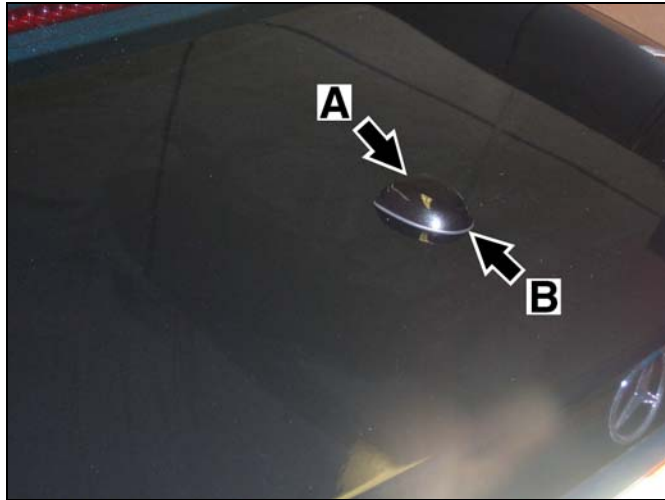

Figure 4
6. Align the SDARS antenna straight with the vertical end (A, Figure 4) facing the vehicle front and the beveled end (B, Figure 4) facing the vehicle rear.